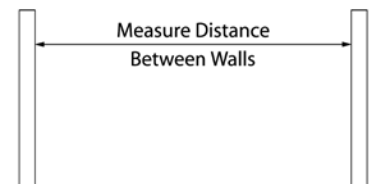

Fig.4
6. Accurately measure the distance between the fixing surfaces. Carefully cut one end of the assembled rod 42 mm shorter than the measured distance between the fixing surfaces. See fig 4. Ensure the end of the rod is cut square and the cut edge is de-burred.